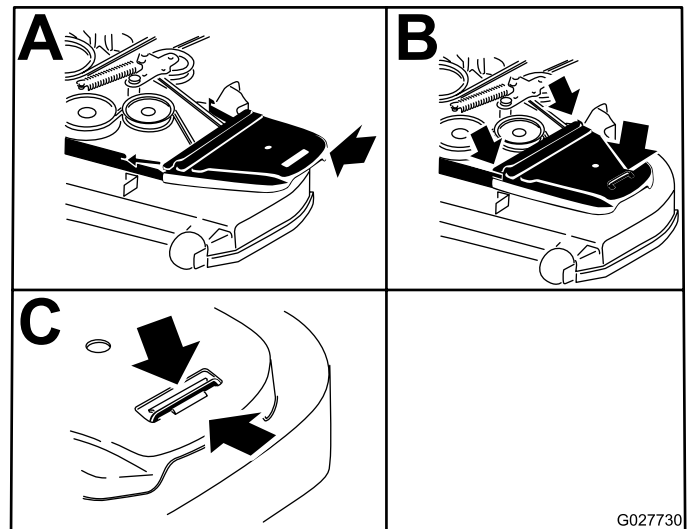

Figure 94
9. Rotate and ensure the belt-guide tab hits against the pivot hub (Figure 94).
11. Install the belt covers (Figure 94).